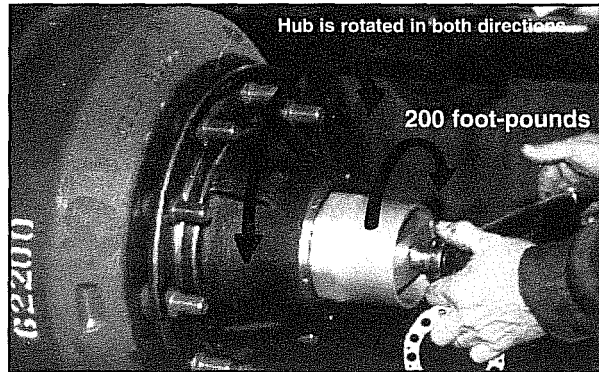
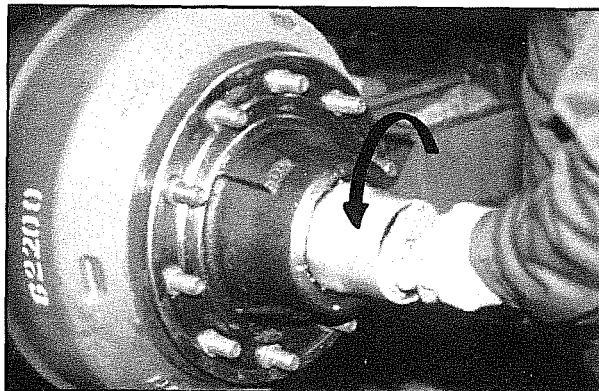

Figure II-8: Tightening of inner spindle nut to two hundred (200) foot pounds. Note that the hub is rotated in both directions as spindle nut is tightened.
Figure II-9: Inner spindle nut is backed off 1/2 turn for steer axles or 1/4 turn for drive and trailer axles.
2. Tighten the inner spindle nut (adjusting nut) to two hundred (200) foot-pounds of torque while rotating the hub in BOTH directions, as illustrated in Figure II-8.
3. Back off the inner spindle nut (adjusting nut) one full turn and rotate the hub. Retighten the inner spindle nut to fifty (50) foot-pounds while rotating the hub in BOTH directions.
4. Back off the inner spindle nut (adjusting nut) 1/2 turn for steer axles or 1/4 turn for drive and trailer axles, per Figure II-9.
5. Install the lock washer, the hub bearing tab lock washer (when required) and outer spindle nut (jam nut). Tighten the outer spindle nut (jam nut) to two hundred (200) to three hundred (300) foot-pounds for steer axles or three hundred (300) to four hundred (400) foot-pounds for drive or trailer axles. If the drive axle is a tang washer type, the jam nut torque is 200-275 foot-pounds.
2. Tighten the inner spindle nut (adjusting nut) to fifty (50) foot-pounds of torque while rotating the hub in BOTH directions, as is illustrated in Figure II-8.
3. Back off the spindle nut to the first slot or one-half castellation (about one-twelfth of a turn) as is illustrated in Figure II-9, and install the cotter pin.